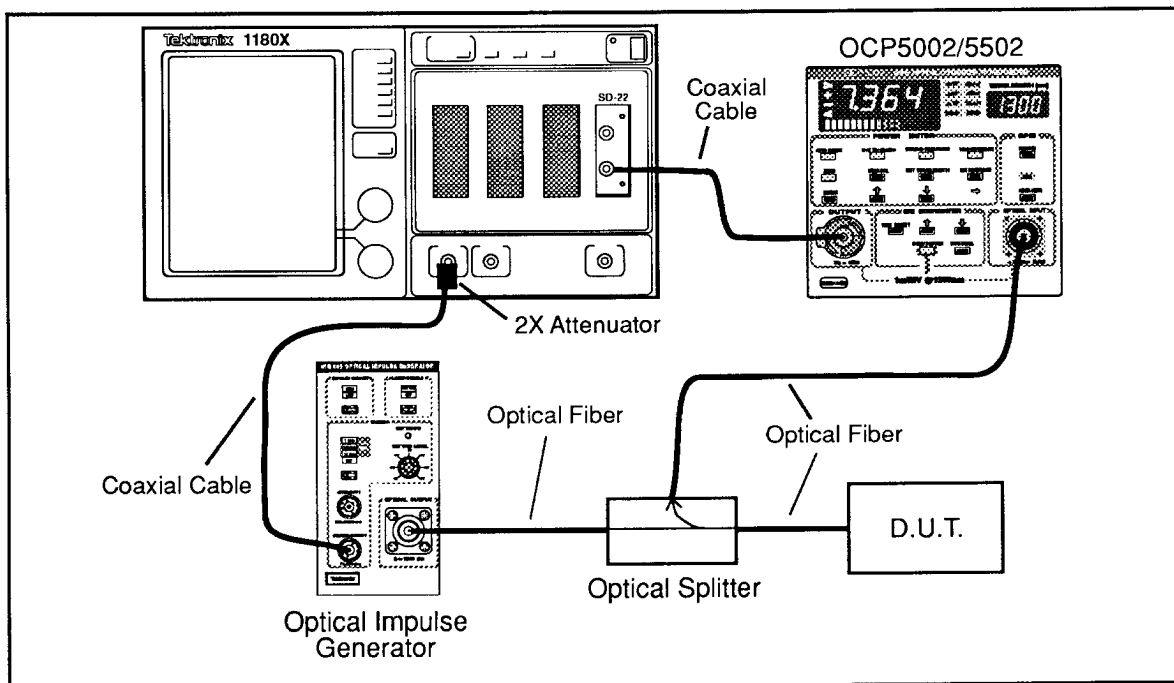

Figure 3-10. Equipment Connections for Reflection Test.
1. Using an optical fiber that has connectors compatible with your equipment, connect the optical output of the OIG502 to one output of the the 3 dB optical splitter as shown in Figure 3-10.